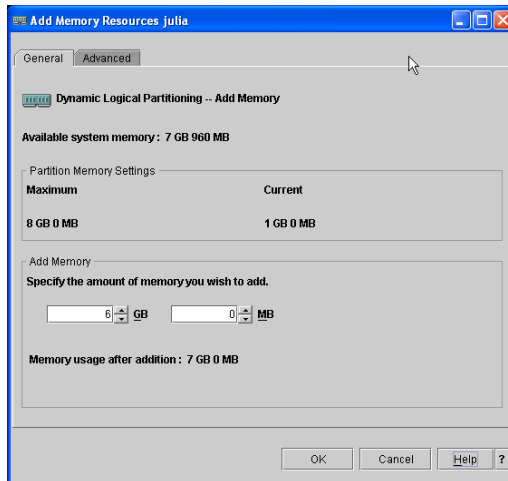

Figure 10 Add memory to partition
In the Server and Partition panel, right-click partition julia and select **Dynamic Logical Partitioning** → **Memory Resources** → **Add**. In the dialog window, enter the desired amount of memory to add as shown in Figure 10 on page 20.
**Note:** When allocating memory to a partition or moving it between partitions, you can increase the time-out limit of the operation to prevent a failure response before the operation completes. Use the Advance tab of the dynamic LPAR memory menu (see Figure 10 on page 20) to increase the time-out limit.